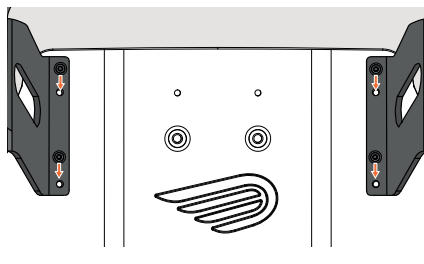

Figure 4 - Placing and attaching front bench.
7. Place the complete front bench, including the feet, as shown in figure 4. Slide the washer 4 over the bolt 3 and screw these into the base plate with a torque of 5 Nm (hand tight). Use hex wrench 5 for this.